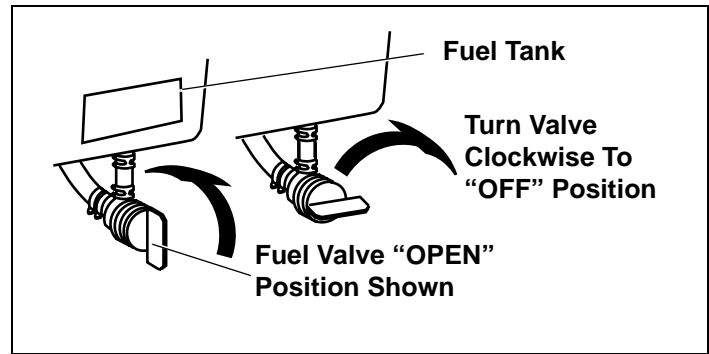

Figure 25. Fuel Valve Positions
2. Be sure fuel valve, if present (see equipment manufacturer's instructions) is open and all switches are on. See Figure 25.